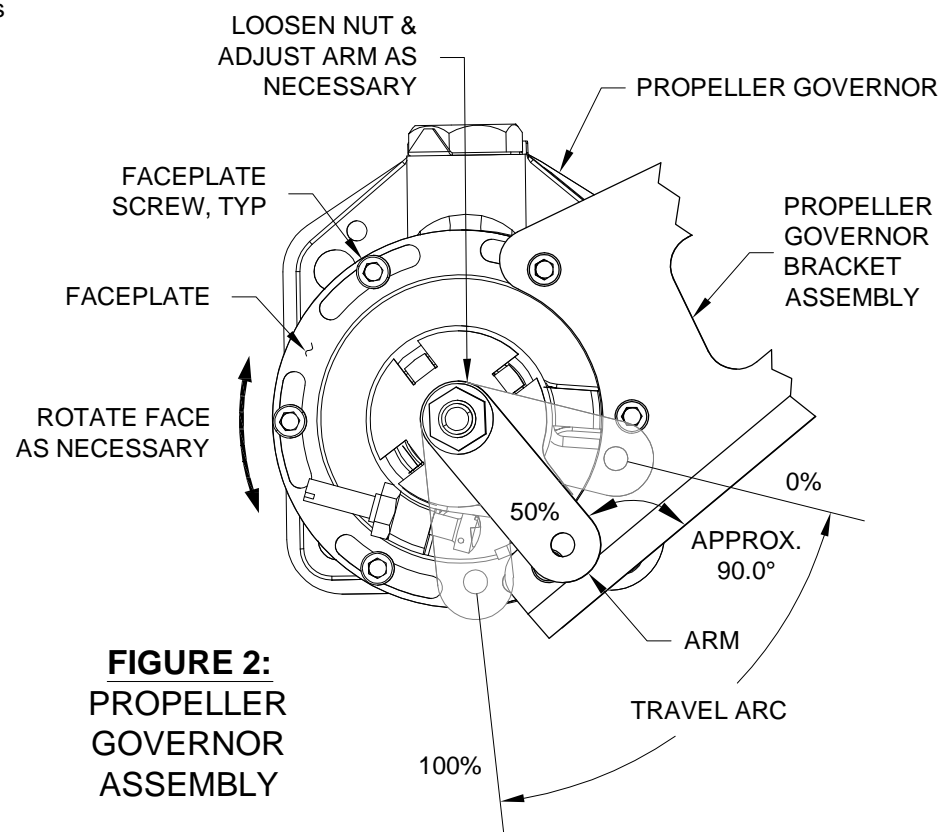
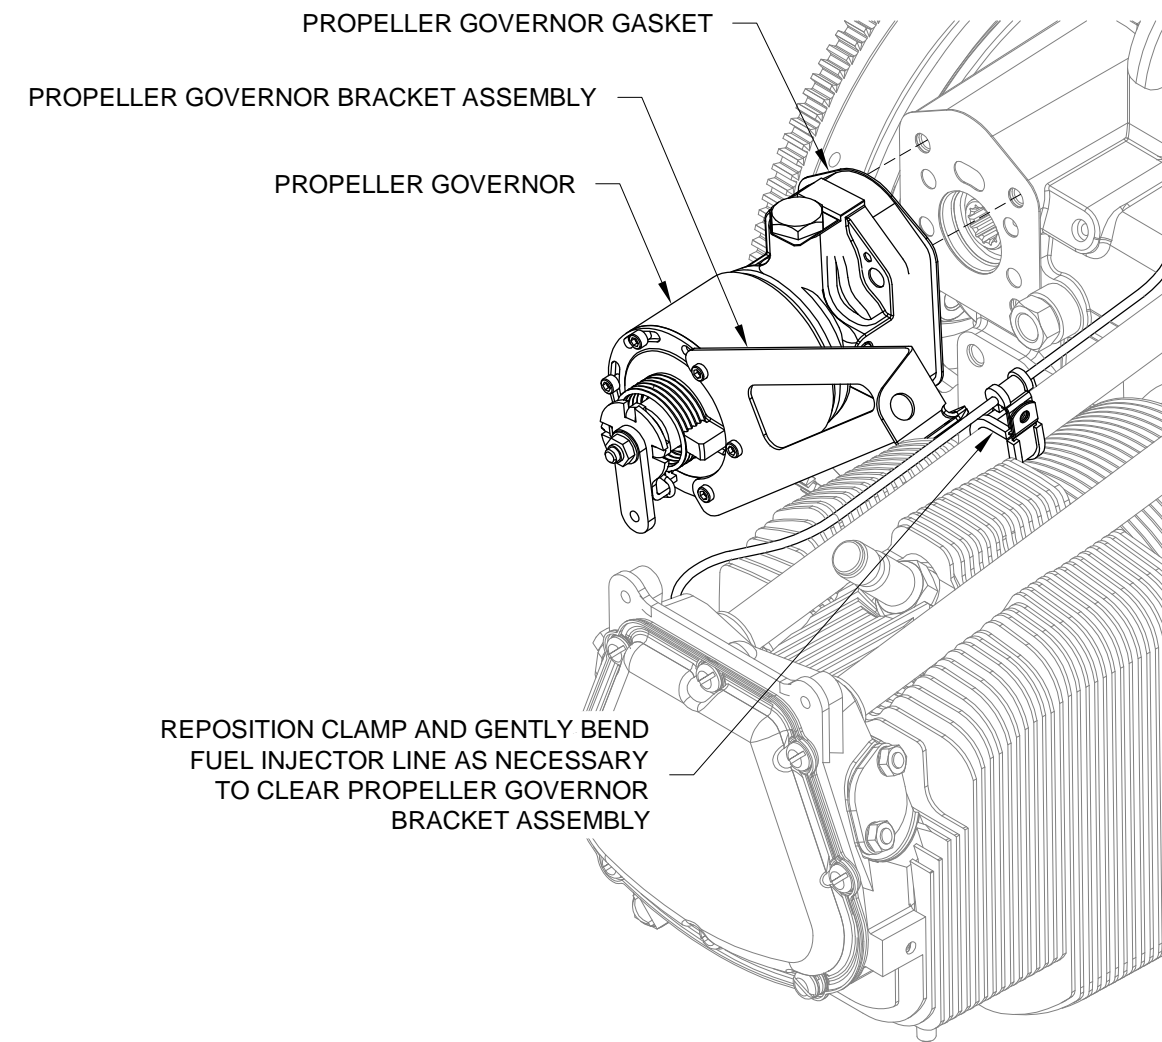

FIGURE 2:
FIGURE 3: PROPELLER GOVERNOR ASSEMBLY INSTALLATION
Step 3: Using the hardware and instructions supplied with the propeller governor, install the Propeller Governor, propeller governor gasket, and Propeller Governor Bracket Assembly onto the engine as shown in Figure 2 and Figure 3.
Step 4: Observe the arm as it swings through its travel arc. Loosen the faceplate screws. Adjust the clocking of the faceplate so at 50% of travel the arm is approximately 90° to the bottom flange of the Propeller Governor Bracket Assembly. See Figure 2.